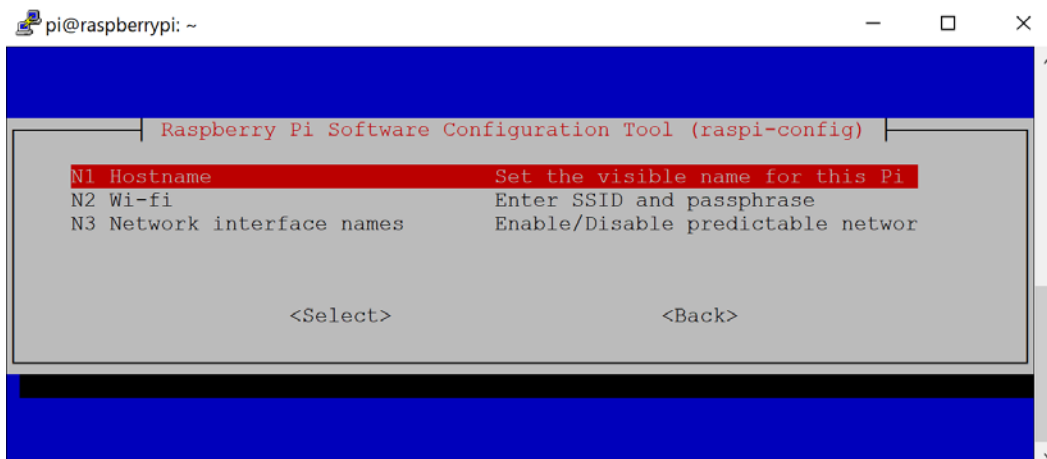

Figure 4.7 – Change the hostname
2. Now select **Hostname** as shown in *Figure 4.7*: